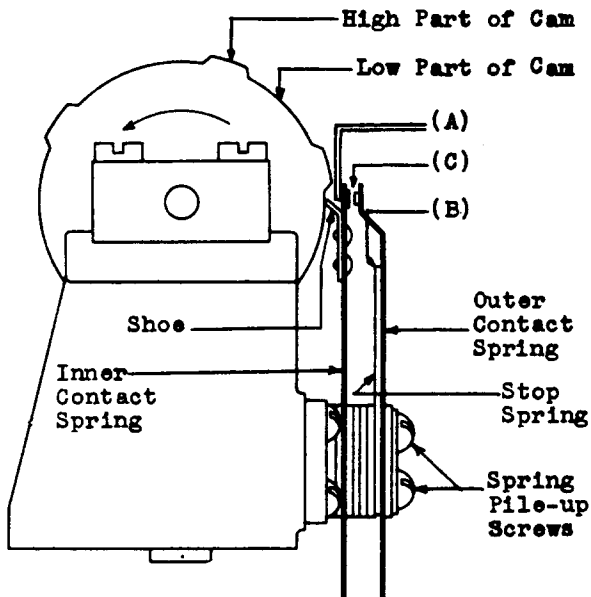

Fig. 3 - Low-speed Cam Assembly
2.07 Pressure of Cam Shoe on Cam: Fig. 3(A)—The pressure of the shoe of the inner contact spring against the *low* part of the cam, measured at the top of the inner contact spring, shall not exceed 25 grams.
2.08 Position of Outer Contact Spring: Fig. 3(B) — With the shoe of the inner contact spring on the *low* part of the cam, the outer contact spring shall rest on the stop spring, at least at the free end of the stop spring.
2.09 Contact Separation: Fig. 3(C) — With the shoe of the inner contact spring on the *low* part of the cam, the separation between the contacts of the inner and outer springs shall be